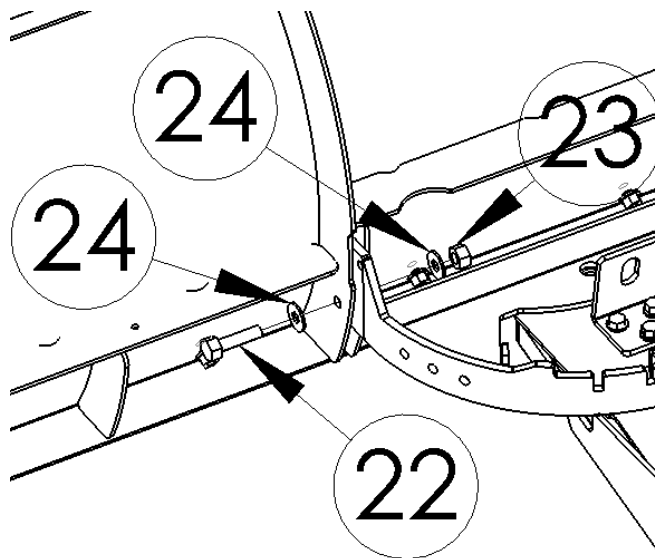

Figure 11
11) Position your blade so that the ends of the Swivel Plate fit between the tabs on the Plow Blade. Attach the blade to the Swivel Plate using the 1/2" Bolts (#22), Washer (#24) and Nylock Nut (#23) included in your kit (Figure 11). Tighten the bolts securely but **do not over tighten.**